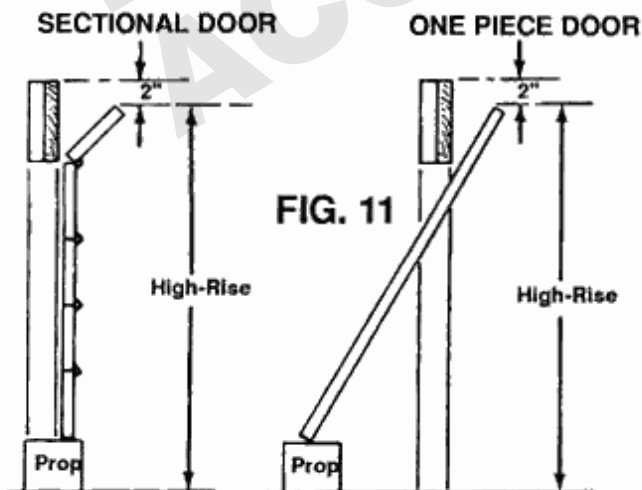

FIG. 11
- B. Slowly raise the door. When it reaches its high-rise point (highest distance off the ground when door is opening), place a support (prop) under the door to hold it at that position. Measure the distance from the floor to the top edge of door. See Fig. 11. Remove support and lower door.
Using this new figure, measure up from floor and mark that point on the door header. Locate the header bracket at that point and directly on the centerline mark. (The header bracket may be mounted higher, but do not go any lower.) See Fig. 11.